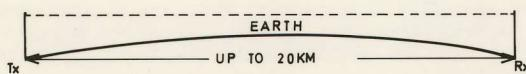

Fig.2    Ground Wave Propagation
- (a) Ground wave propagation: This is used for short distance propagation (up to about 20km). The radio signals follow the earth from transmitter to receiver. (See Fig. 2).